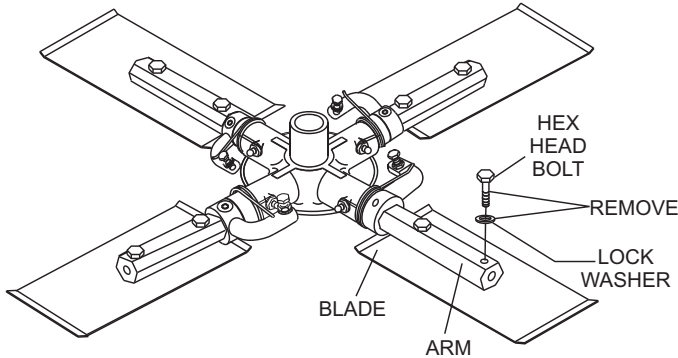

Figure 44. Trowel Blades
1. Remove the trowel blades from the trowel arm by removing the two hex head bolts (Figure 44) from the trowel arm. Set blades aside.